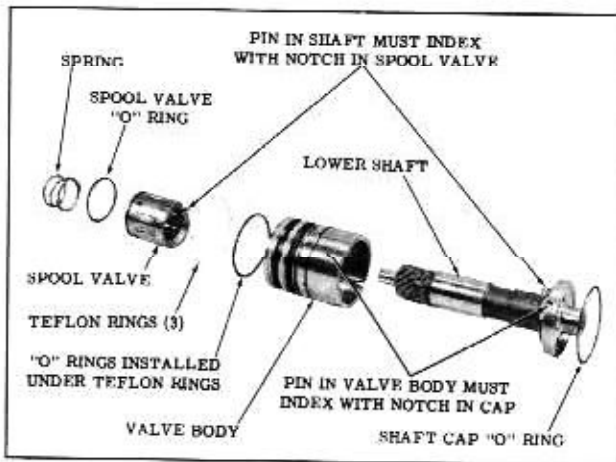

Fig. 4-17 Valve and Lower Shaft Assembly
Assembly (Fig. 4-17)
3. Assemble the lower shaft assembly in the valve body so the notch in the lower shaft cap engages with the pin in the valve body. (Fig. 4-17) If necessary, tap the shaft cap with a plastic hammer until cap is seated in the valve body.